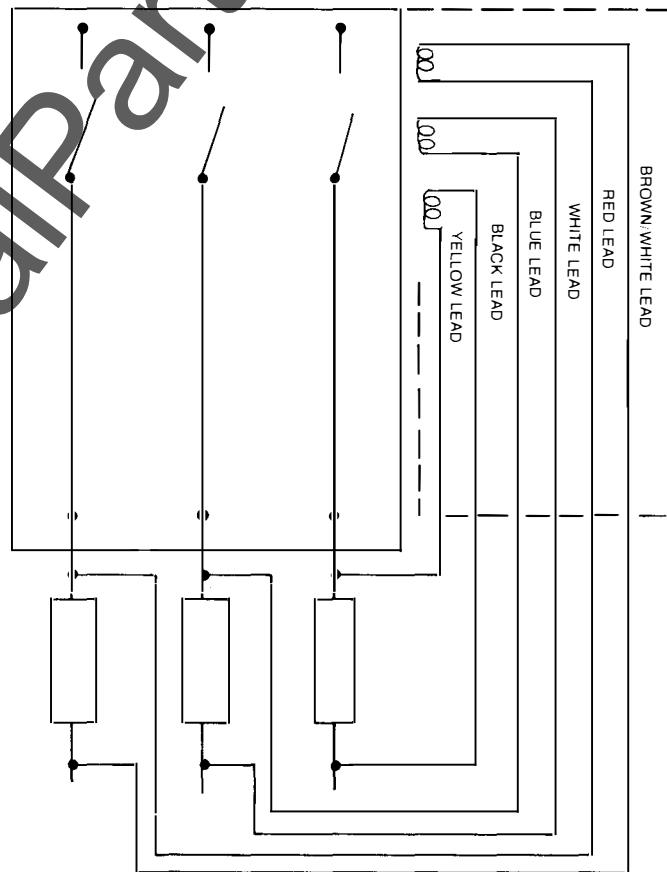

Fig. 14 Wiring diagram
7. Attach six (6) lead wires across each of the three fuses as shown in Fig. 14.